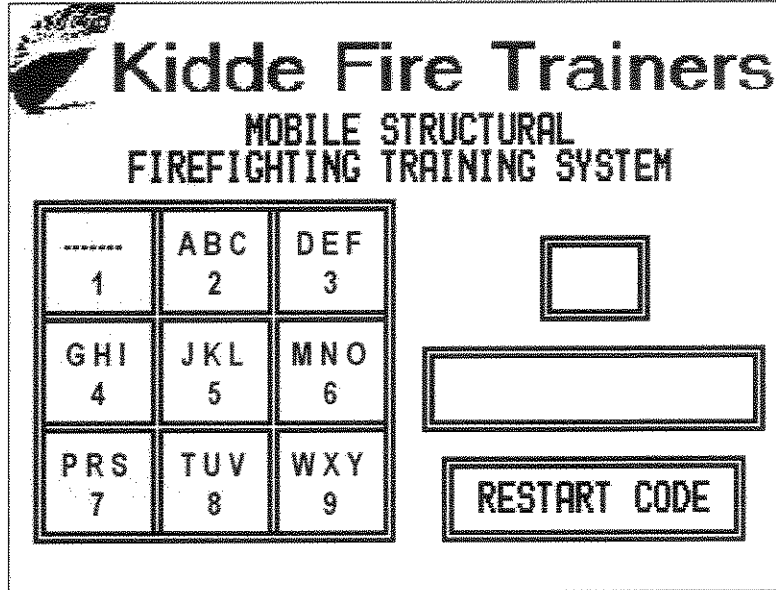

Figure 3-17 Pass Code Screen
3. At the Pass Code screen, use the alpha-numeric keypad to enter pass code and touch Enter. If wrong pass code is entered, an error message is displayed. To re-enter pass code, press RESTART CODE button, enter correct pass code, and touch ENTER PASSCODE (See Figure 3-17).